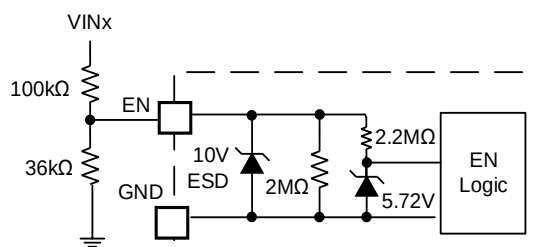

Figure 4: EN Circuit with a 10V Zener Diode
The MP4255 offers enable (EN) control via the EN pin, which has two different EN thresholds. If the EN voltage (V_{EN}) exceeds 0.7V, then VCC is enabled. If V_{EN} exceeds 1.6V, then the IC starts up and begins normal operation. EN is clamped internally via a 10V Zener diode (see Figure 4).